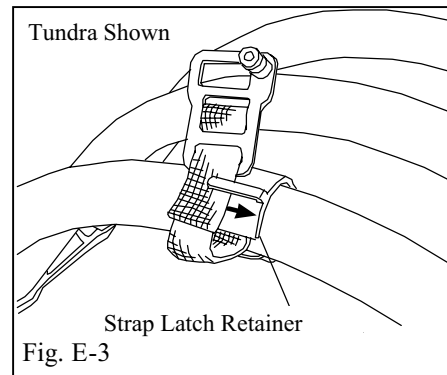

Fig. E-3
- i. When the Extender is in the inward position, clip the straps onto the Strap Latch Retainer as shown in Fig. E-3. This will prevent the buckles from rattling.